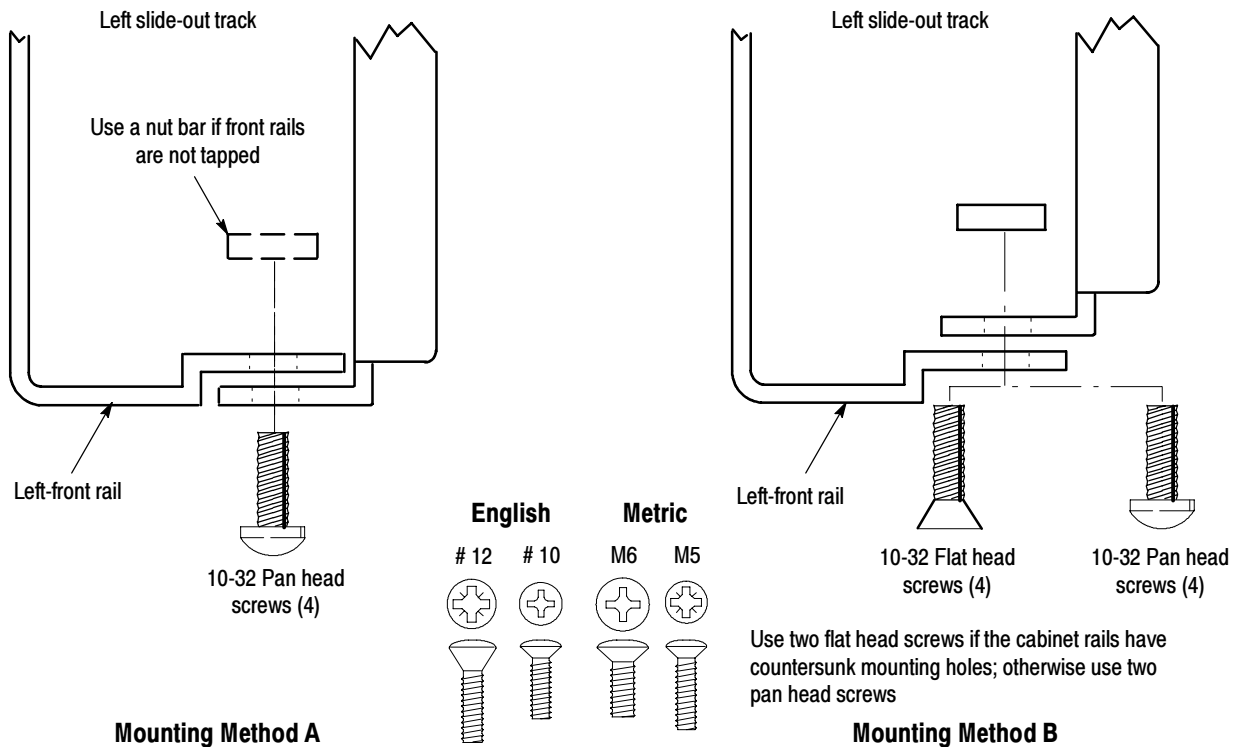

Figure 10: Installation of slide-out track assemblies in rack (top view)
- To mount the slide-out tracks with their front and rear flanges outside of the front and rear rails use Mounting Method A shown in Figure 10 when doing substep c. Add a nut bar to the installation only if the rails have untapped holes.
- To mount with front and rear flanges inside of rails use Mounting Method B outlined in Figure 10. This mounting method assumes untapped holes.